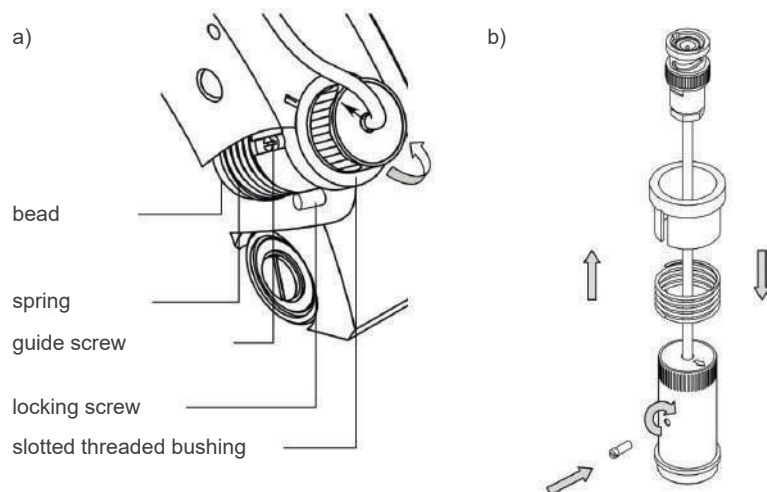

Fig. 6
- loosen the locking screw (**Fig. 6**),